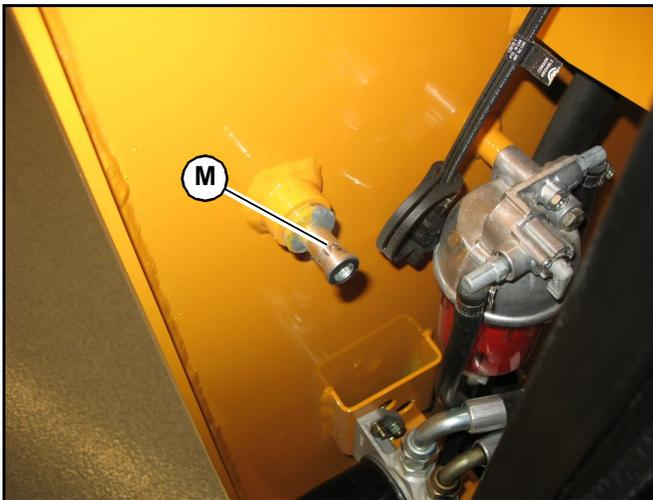

Fig. 82 – Chassis Ground/Rear Door Catch
5. Connect the free end of the positive jumper cable to the positive (+) terminal (P) on the booster battery.
6. Connect the negative jumper cable to the negative (-) terminal (N) on the booster battery.
7. Open the rear door of the engine compartment (“Engine Access” on page 126) and connect the free end of the negative jumper cable to the rear door catch (M, Fig. 82) in the engine compartment.